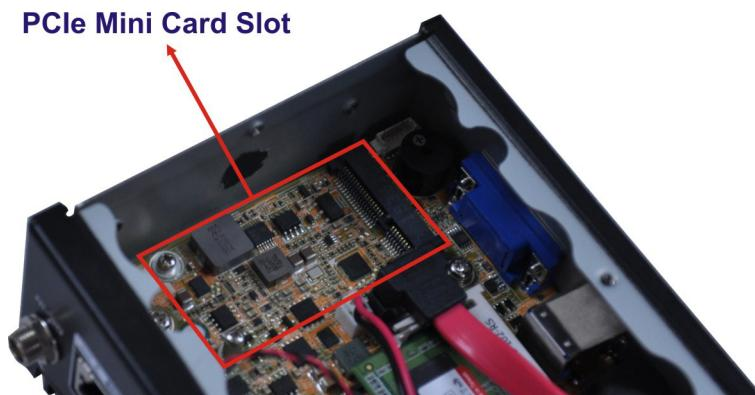

Figure 3-6: PCIe Mini Slot Location
Step 3: Locate the PCIe Mini slot (**Figure 3-6**).